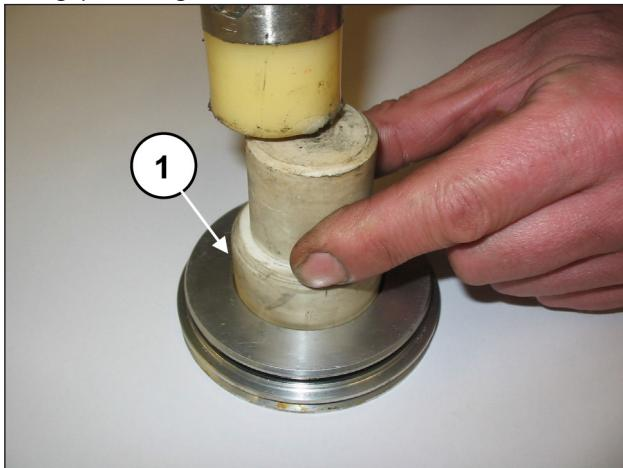

Fig. 5
Remove the radial seal ring (pos. ①, Fig. 5) and the external O-ring (pos. ①, Fig. 6).